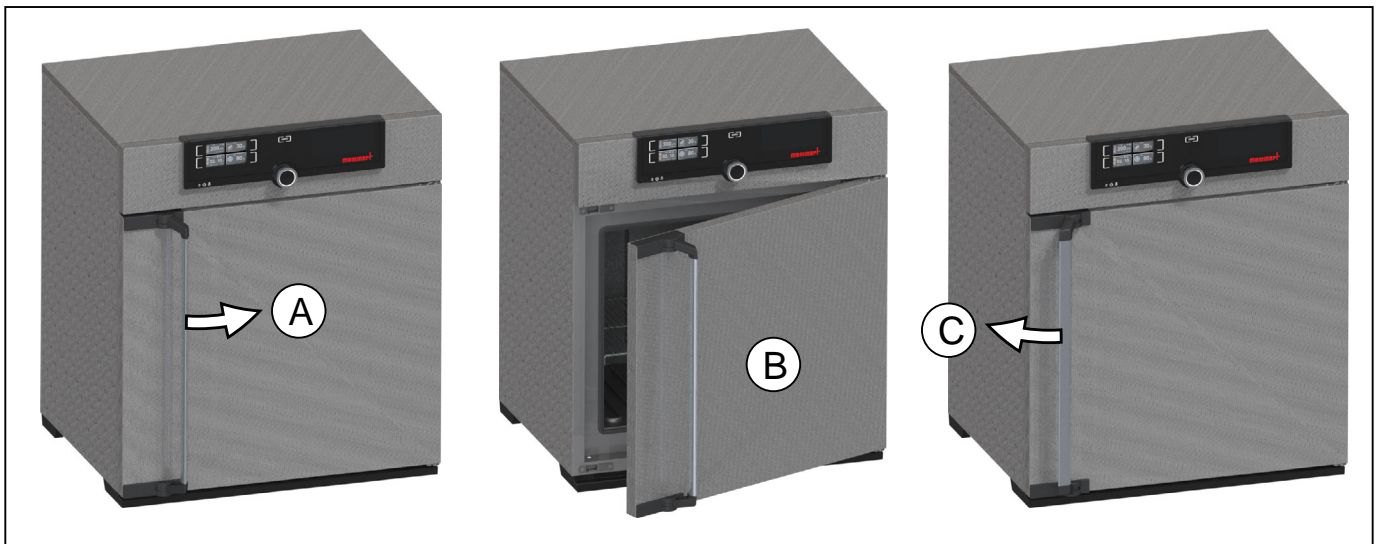

Fig. 11 Opening and closing the door
- ▶ To open the door, pull the handle bar to the side (to the left or to the right, depending on the door variation, see Fig. 11, A). The door opens slightly, so that the heat can be vented with the door ajar in case of high temperature inside the chamber. The door can then be opened completely (B).
- ▶ To close the door, push the handle bar back (C).